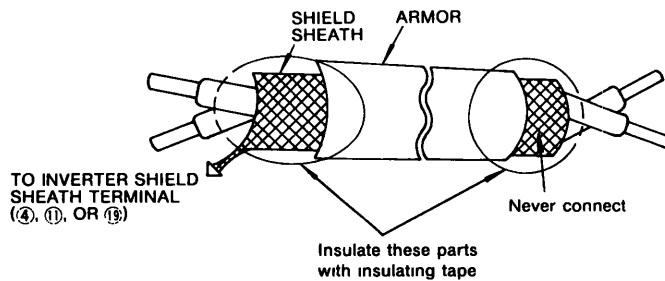

Fig 7 Shielded Lead Termination
Use the twisted shielded lead or twisted-pair shielded lead for the control circuit line and connect the shield sheath to the any of the inverter terminals ④, ⑩, or ⑬. See Fig. 7.